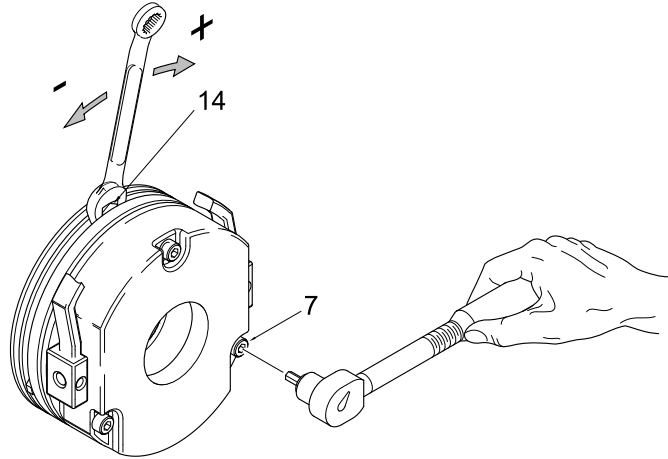

Figure 52 – Adjusting the Hoist Brake Air Gap
Where adjustment is required, slacken the assembly screws (7). Adjust the air gap by turning the adjustment tubes (14) until the nominal air gap 'a' is reached (see Figure 52).
- If the air gap is too large, screw the three adjustment tubes (14) into the stator. If the air gap is too small, screw the adjustment tubes out of the stator.